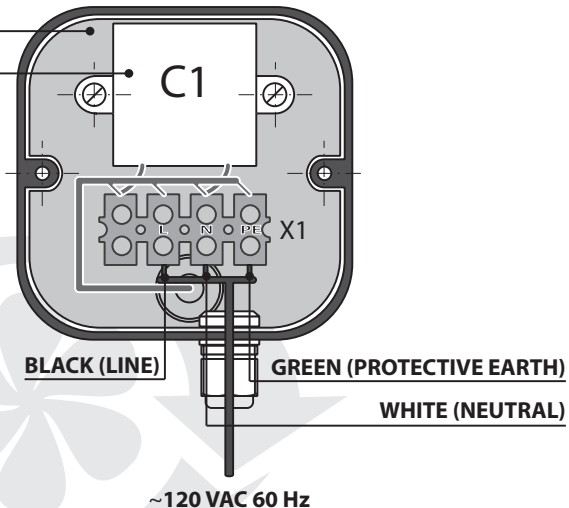

Fig. 6
- If the fan did not come pre-wired or if a new wire is to be used, wire the fan as shown in the Figure 6 below.